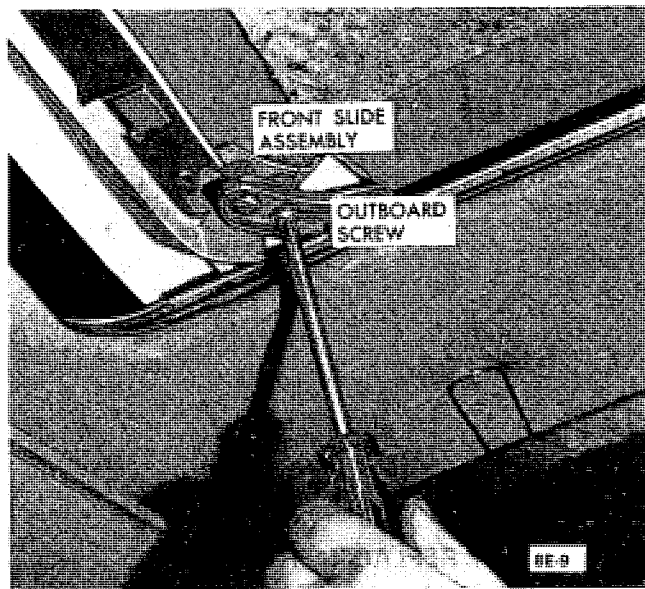

Figure 8E-9 Remove Outboard Screw From Front Slide Assembly
6. Pull each rear slide and cable assembly inboard and out of slide retainer hole in roof panel. See Figure 8E-11.